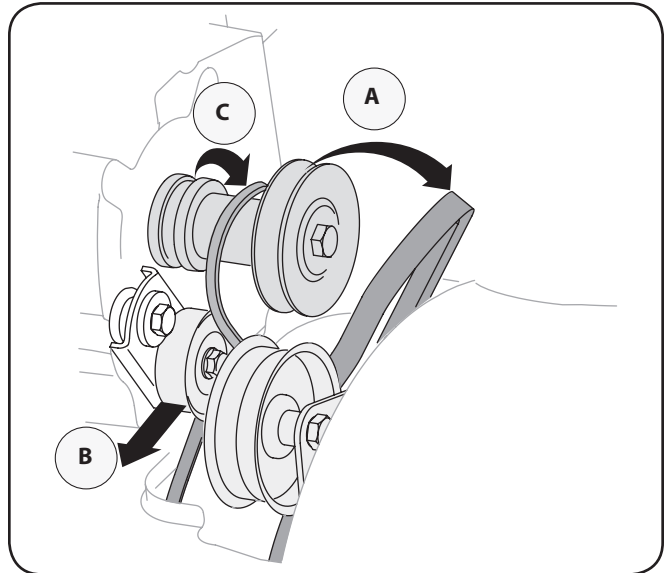

Figure 7-6
3. Remove the belt as follows. See Fig. 7-6:
- b. Pivot the idler pulley toward the right. See Fig. 7-6.